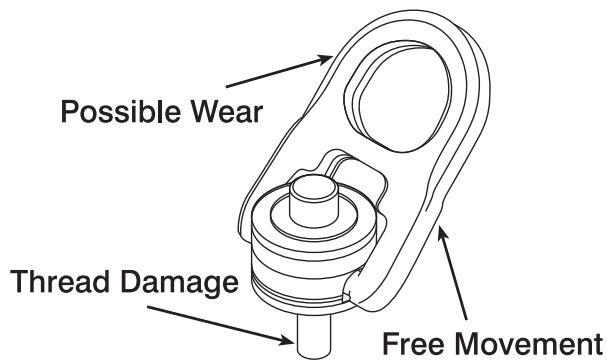

Fig. 3.
- Regularly inspect hoist ring parts (Fig. 3).